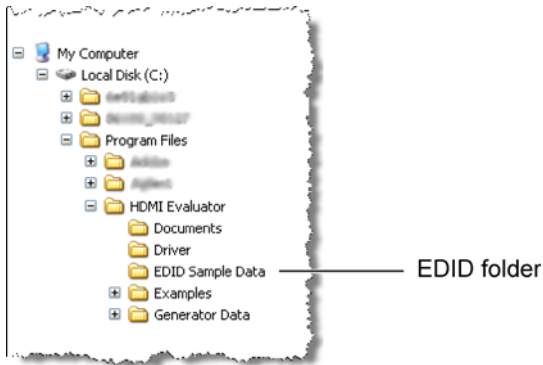

Figure 14 Location of EDID Files
- 4 Click EDID File Open, and select an EDID File. EDID files use the .edi file extension and are located in the application folder shown in Figure 14. Refer to Table 7 on page 49 for a listing of compliance tests and corresponding EDID files.